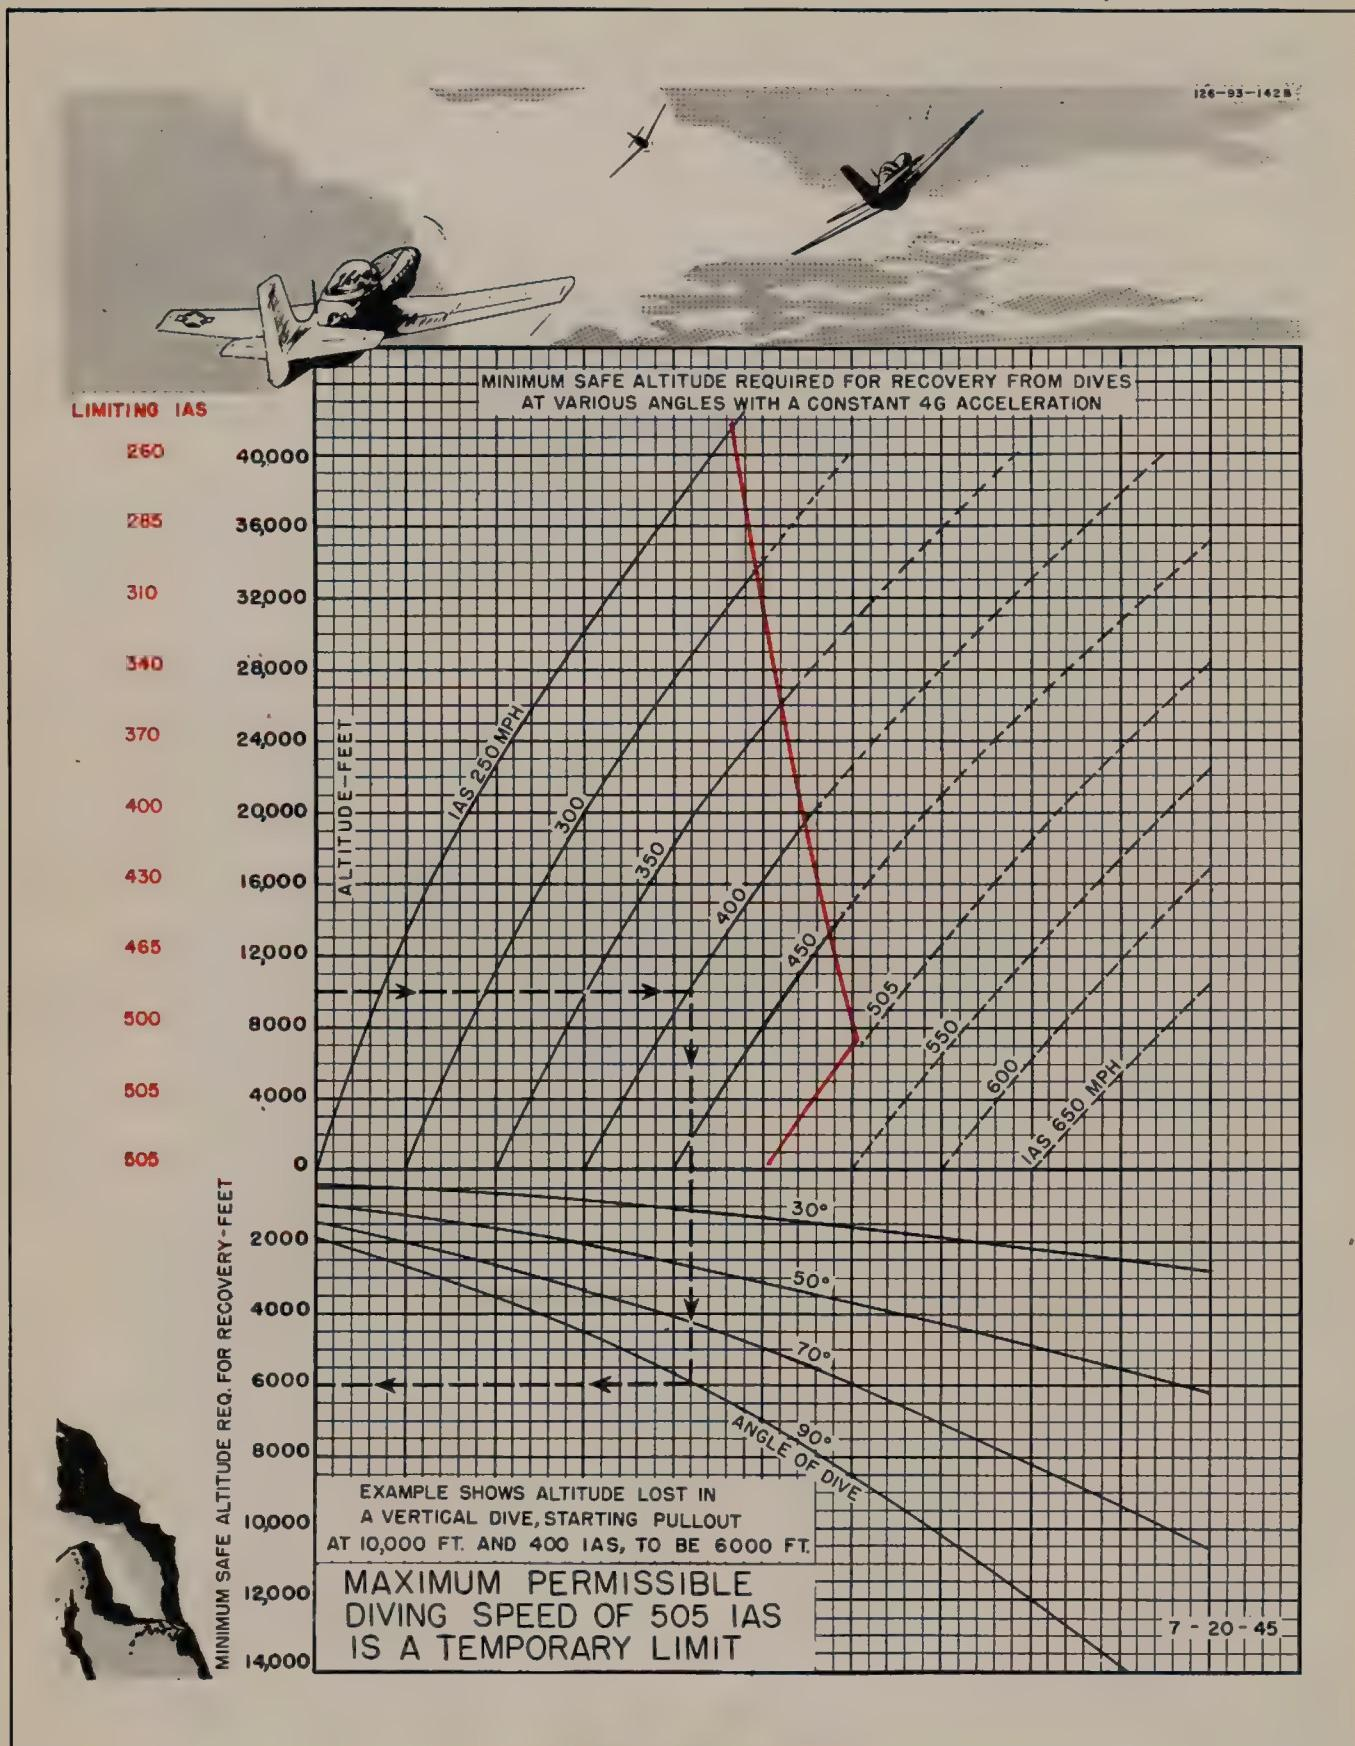

Figure 12—Diving Limitations
b. ALTITUDE REQUIRED FOR PULL-OUT.—Figure 12 shows the minimum safe altitude required for a pull-out from dives, with a constant 4-G acceleration.
c. RECOVERY.—If, through necessity or inadvertence, the diving limits shown on figure 12 are exceeded and pronounced compressibility effects are experienced, pull up very gradually.